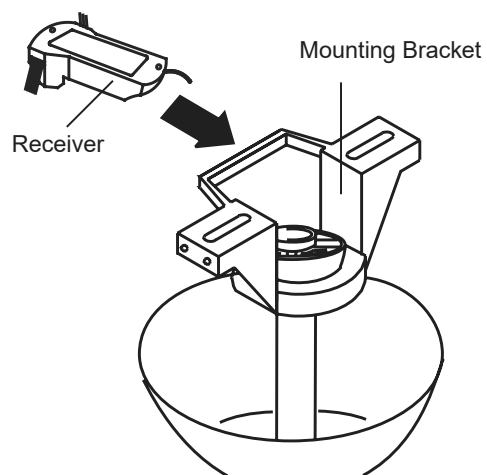

Fig. 10
Step 1. Insert the receiver into the mounting bracket with the flat side of the receiver facing the ceiling. **(Fig. 10)** For best performance, make sure the black antenna wire (on the end of the receiver) remains extended, and does not become tangled with the electrical wires.